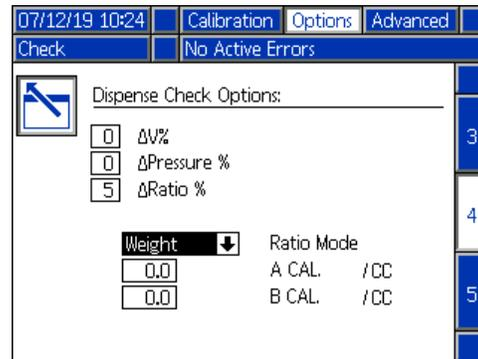

FIG. 32: Dispense Check Options
11. Verify that a non-zero percentage is entered for the Delta Ratio field and a Ratio Mode (weight is recommended) is selected. See FIG. 32.